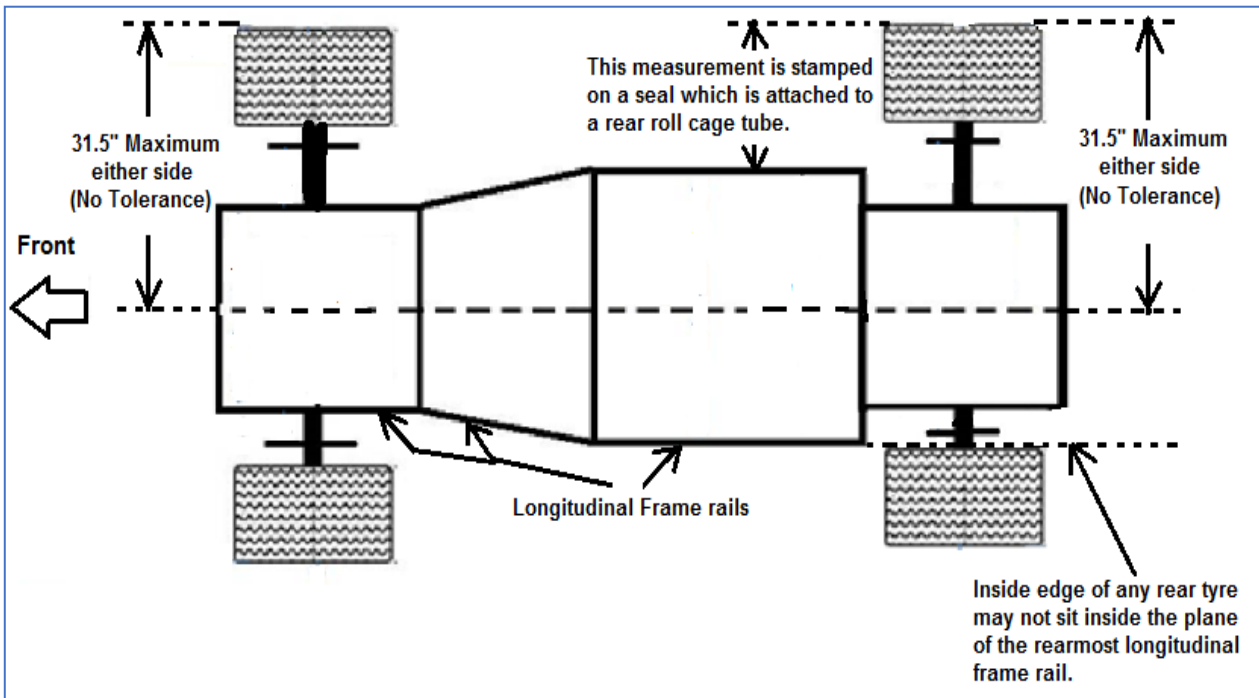

Figure 19
25.8 Maximum track offset. All cars must pass freely through the hoop described in (Figure 1). The outer most edge of any front or rear tyre may not protrude more than 31.5 inches out from the centreline of the chassis frame. No inside edge of any rear tyre is permitted to sit inside the outer edge of the widest point of the main frame rail (Figure 19).